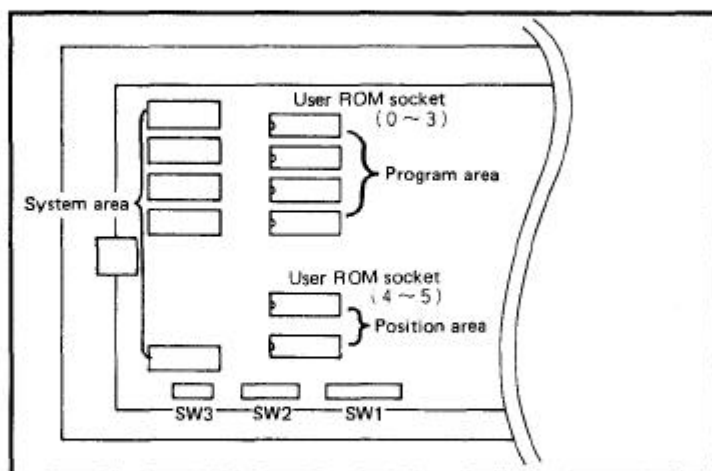

Fig. 6.1
6.5.2 ATTACHMENT OF ROM TO THE CPU BOARD (REFER TO FIG. 6.1)
(b) Confirm the ROM No. and direction and attach by pushing in from the front as in Fig. 6.1.